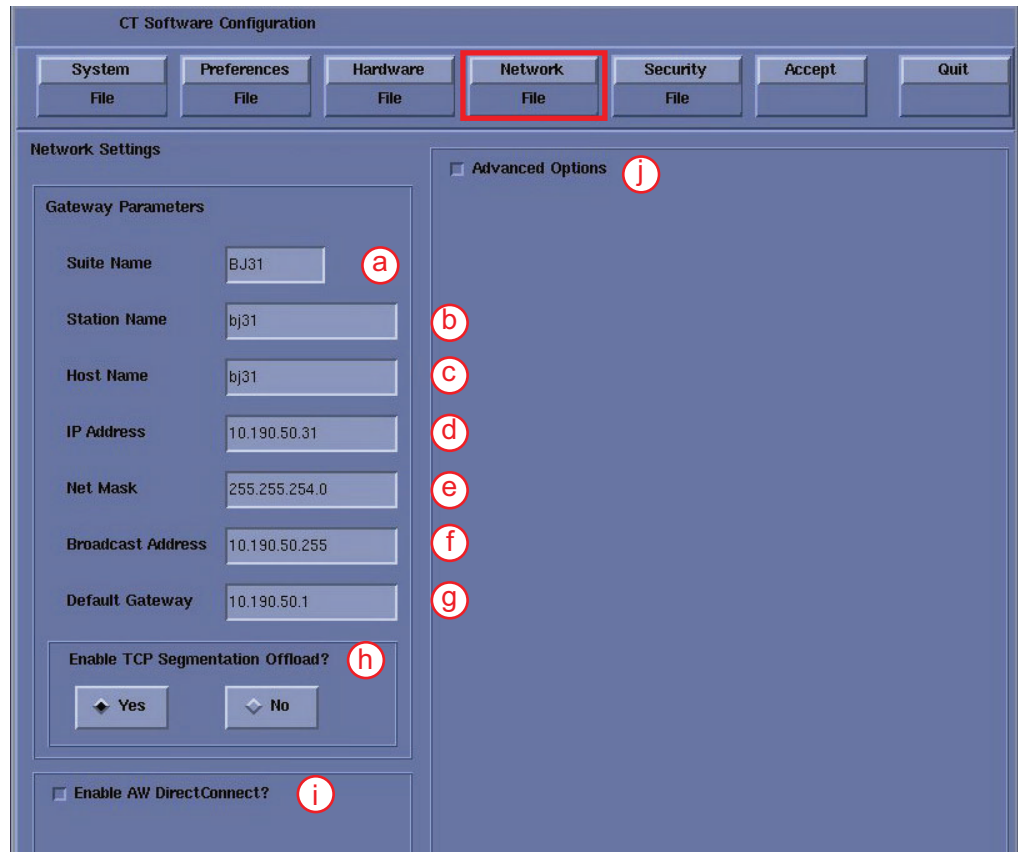

Figure 5-17 Network Settings Screen
- 10.) Select the NETWORK button to display the Network Settings Screen as shown in Figure 5-17.